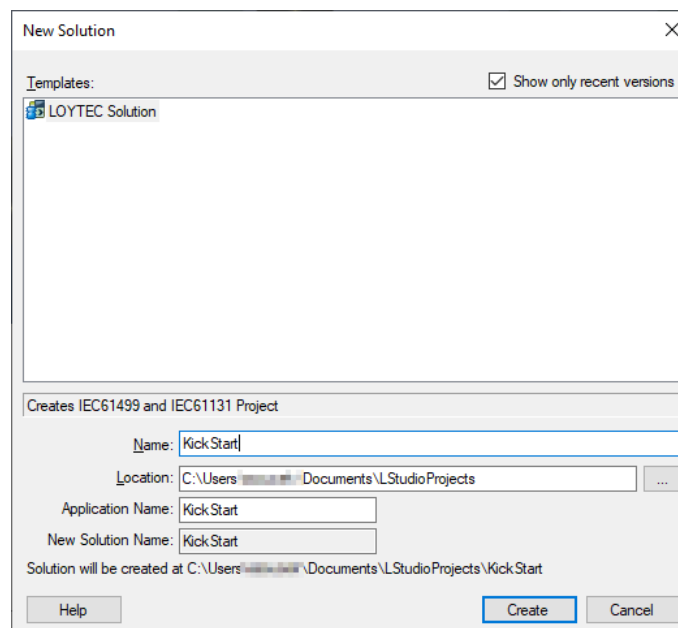

Figure 40: Create a new L-STUDIO solution
2. Create a new solution in menu **File → New → Solution...** and enter a name as shown in Figure 40.